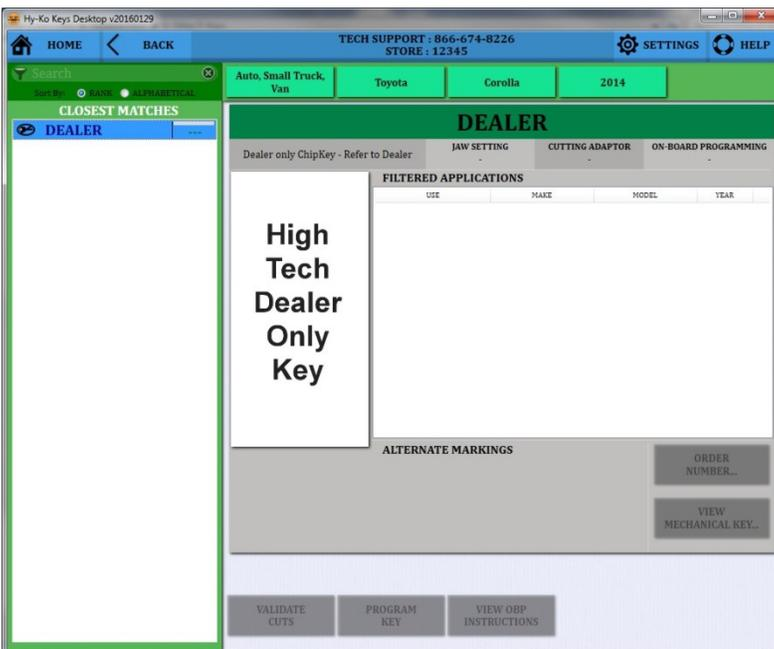

fig. 110
- There are instances where the only key listed will be a DEALER key. In this case, there is no aftermarket key and/or programming procedure available so the customer will have to go back to the dealership to get a new key (see fig. 110).